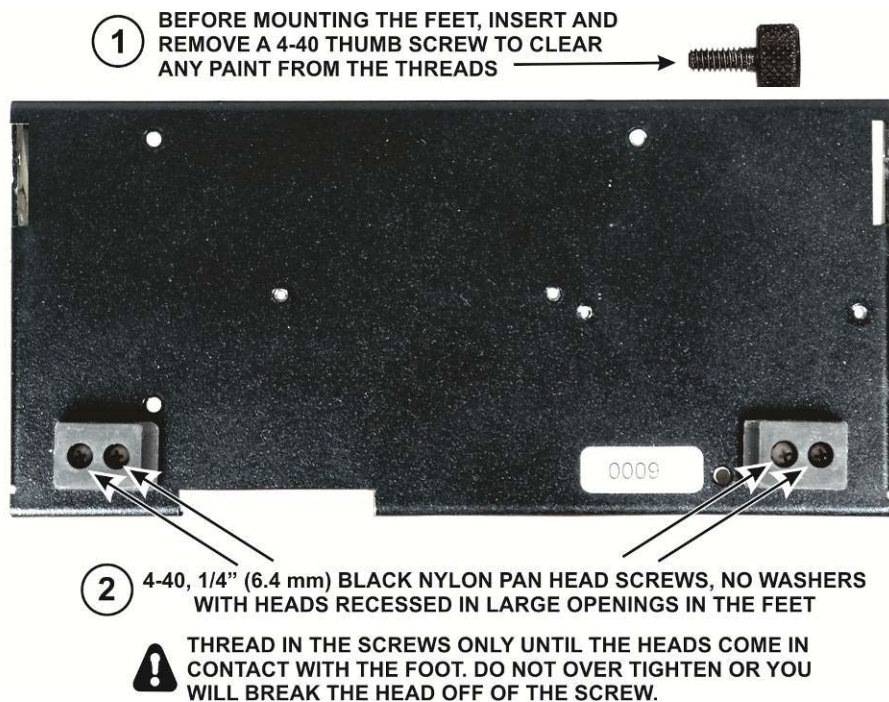

Figure 31. Mounting Rubber Feet on Bottom Cover.
- Mount two of the four rubber feet on the bottom cover using **nylon** screws as shown in Figure 31. First clear any paint out of the threads with one of the black 4-40 thumbscrews. Orient the feet so that the heads of the screws are recessed in the large openings in the feet.